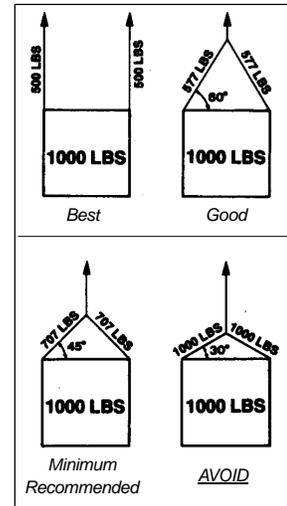
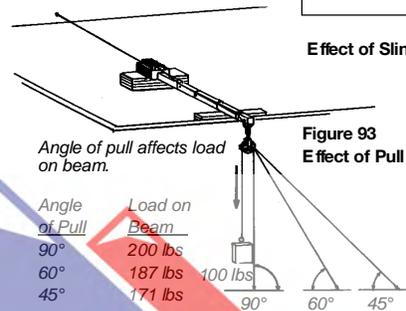

Figure 92
Figure 93
- Understand the effect of sling angle on sling load (Figure 92) and pull angle on beam load (Figure 93).